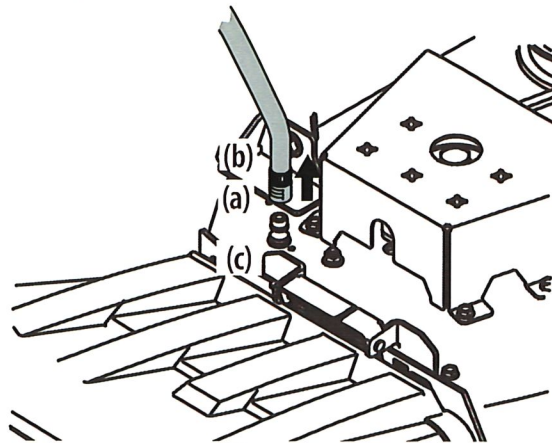

Figure 20
3. Pull back the lock collar (a) of the nozzle adapter (b) and push the nozzle adapter onto the deck wash nozzle (c). Release the lock collar to lock the nozzle adapter on the deck wash nozzle. See Figure 20.